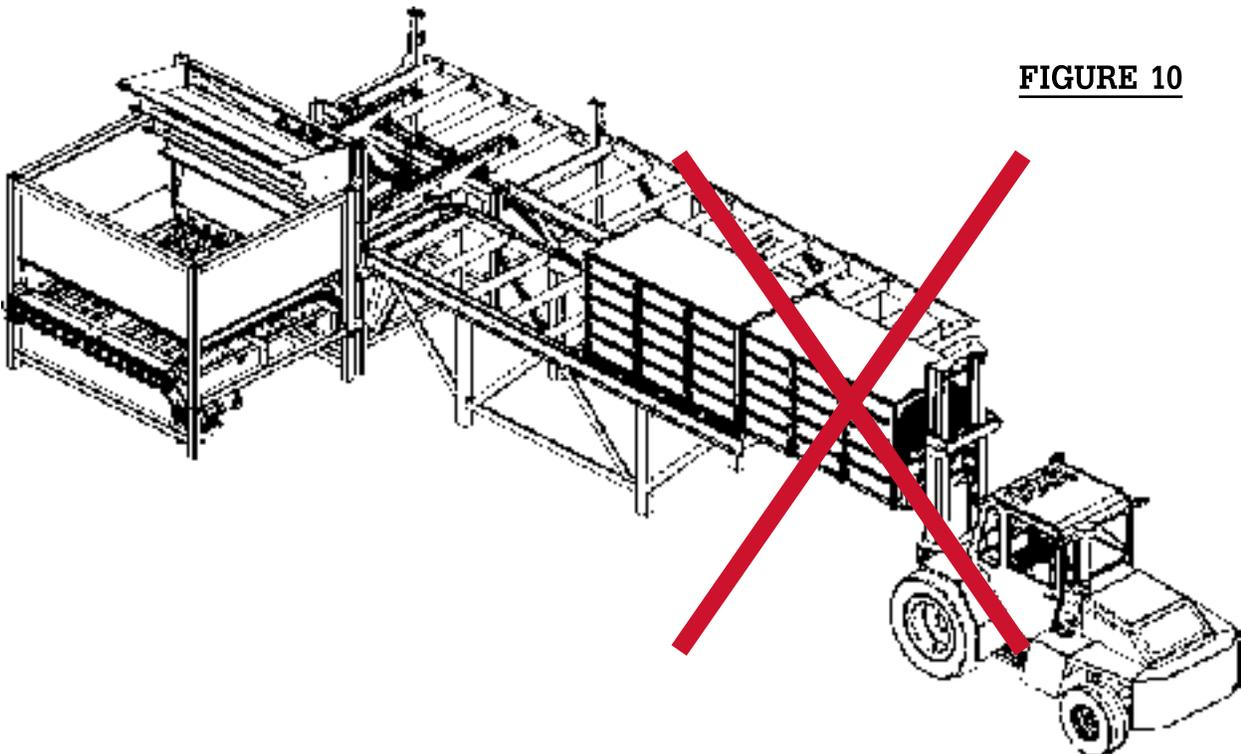

FIGURE 10
**INSTRUCT THE FORKLIFT OPERATOR TO NEVER SHOVE A CHICKEN CAGE FROM THE LOADING AREA TO SET ANOTHER LOADED CAGE ON THE INCOMING CONVEYOR. (See figure 10)